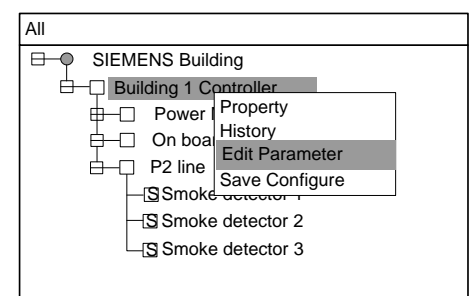
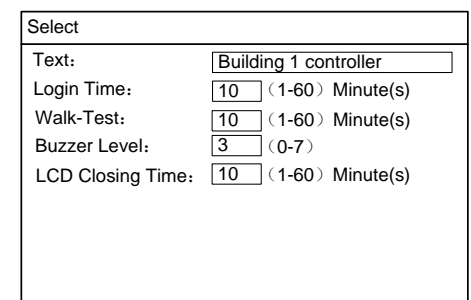

Fig.16-4
Fig.16-5
- Press "→" to pop out the shortcut menu (Fig.16-4). Use "↓" to select "Edit Parameter" and press "OK" to enter the parameter editing interface (Fig.16-5).